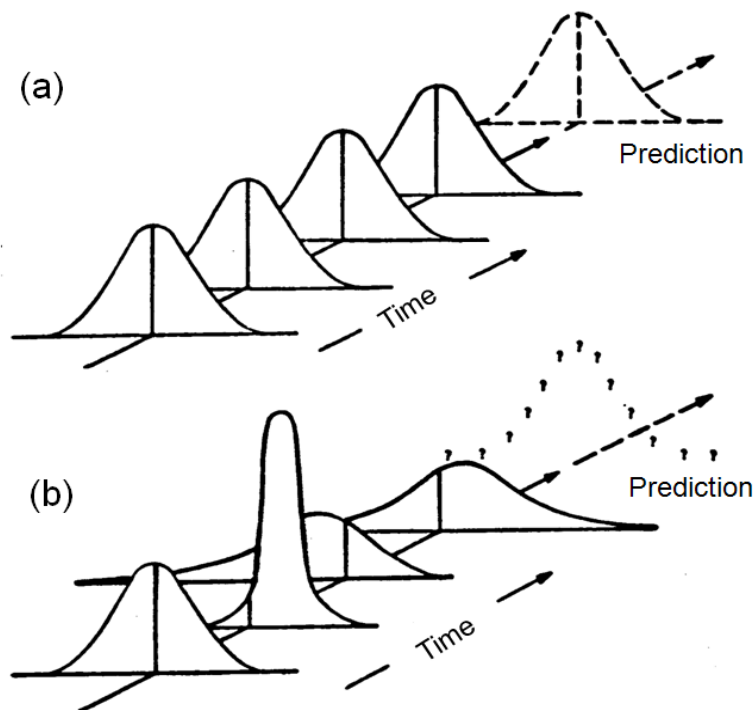

Figure 1: Process variability observed at certain time interval
- [b] Figure 1 shows a process variability observed at certain time interval.
- (i) Discuss the process quality by comparing Figure 1(a) and 1(b).